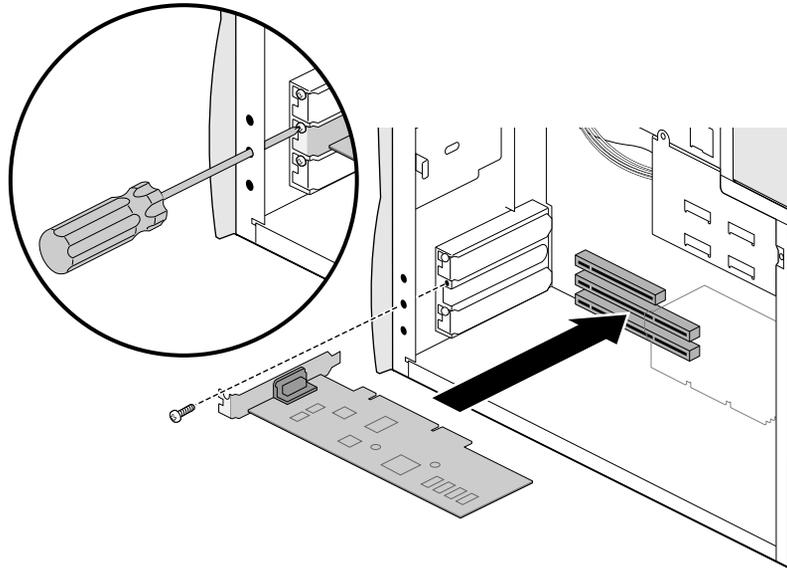

Figure 5-2 Installing a PCI Card
6. Install the new card, as shown in Figure 5-2.